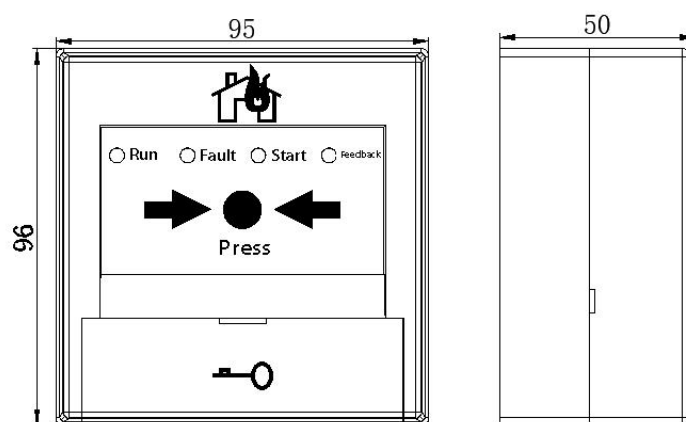

Figure 1 Schematic diagram of the appearance of the fire hydrant button
4.1. The outline diagram of the fire hydrant button is shown in Figure 1: